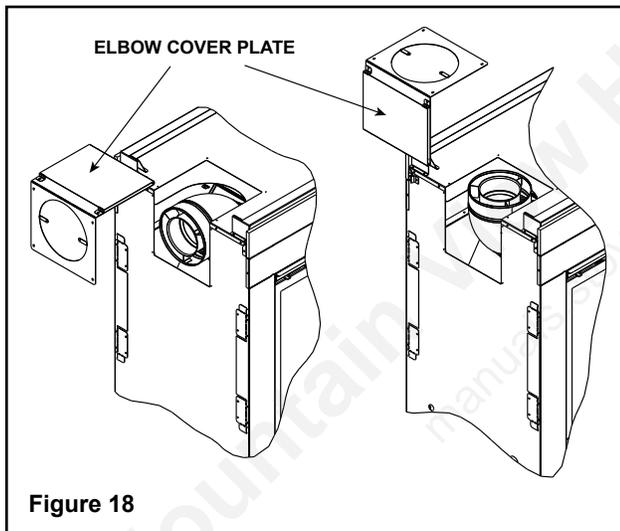

Figure 18
- To attach the elbow flue, the elbow cover plate must first be removed from the unit (see Figure 18).